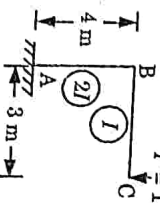

Fig. 2.
d. Determine the vertical deflection at point C in the frame shown in Fig. 2. Given  $E = 200 \text{ kN/mm}^2$  and  $I = 30 \times 10^6 \text{ mm}^4$ .  $P = 1 \text{ kN}$